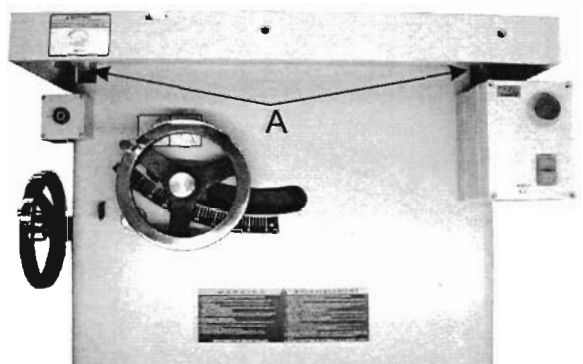

Figure 24
5. If they are not the same, loosen four hex socket cap screws (A, Fig. 24) that hold the table to the base. Two are shown in Figure 24.